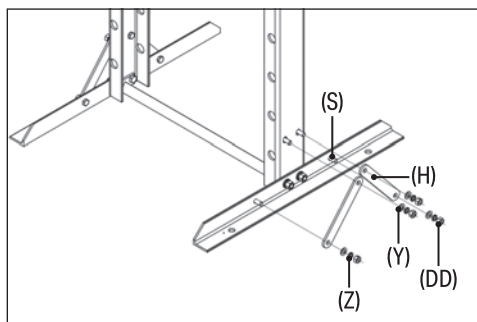

Fig. 3
- c. Position two stilt support brackets (H) from the frame foot to the vertical stilt.
- d. Secure the support brackets to the vertical stilt and foot using four M10 x 25mm hex bolts (S), M10 washers (Y), M10 spring washers (Z) and M10 nuts (DD) (Fig. 3).